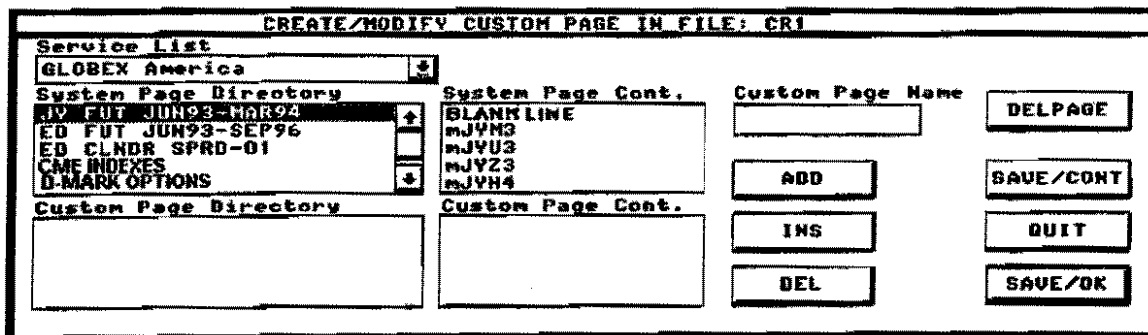

Figure 6.3 Step 1
1. Click on a system page name; the **System Page Contents** lists the instruments on that page (Exchange identifier followed by instrument name) as well as the entry **Blank Line** (see Figure 6.3).